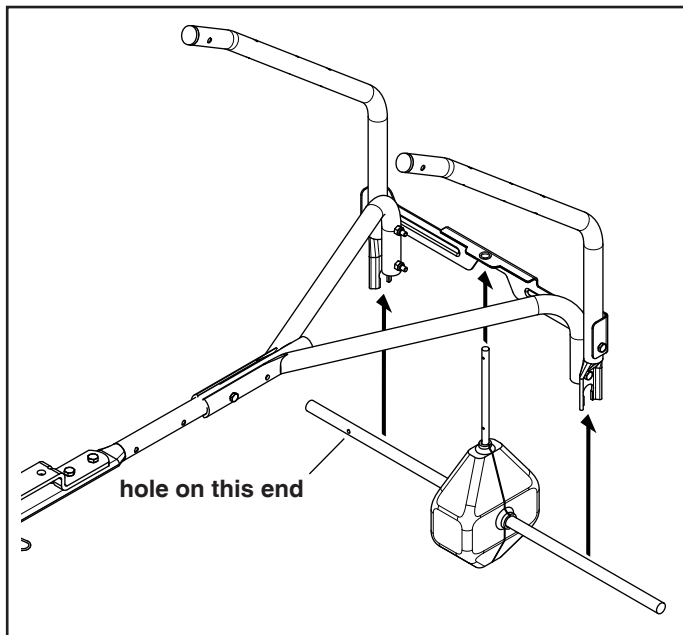

FIGURE 5
### STEP 5: (SEE FIGURE 5)
- Install the gearbox by inserting the end of the verticle shaft into the cross brace bushing and inserting the axle into the ends of the hopper support tubes. Be sure the hole in the axle is located on the side shown in figure 5.